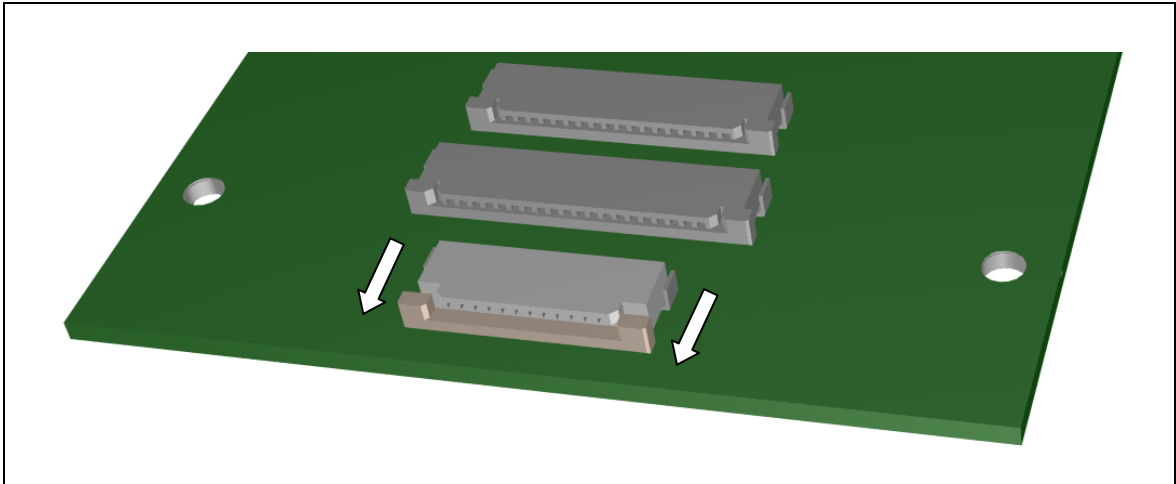

Figure 18 Opening the cable clip
- 1 Open the cable clip in the direction of the arrow (refer to Figure 18).